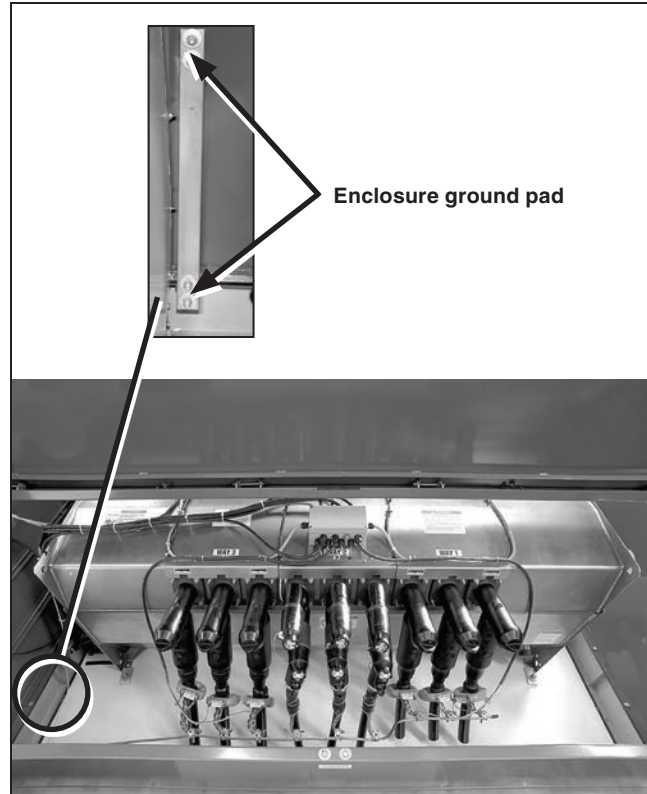
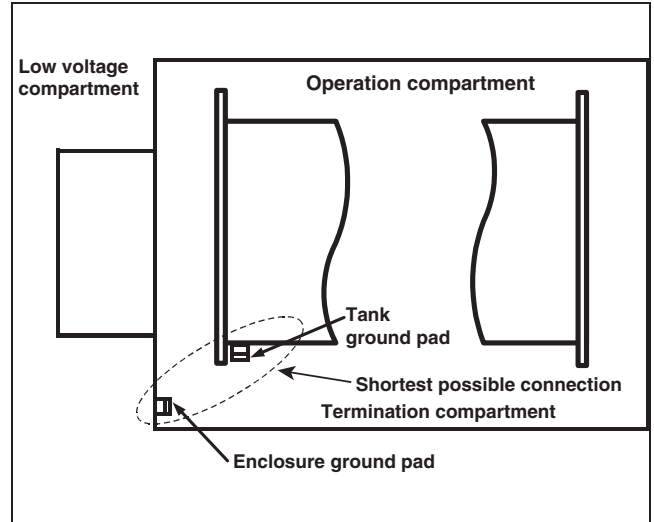

Figure 11. The pad-mounted enclosure ground pad orientation.
Figure 13. The tank and enclosure ground pads.
- STEP 2.** Connect the ground pad of the tank and the ground pad inside the enclosure to the system ground facility in accordance with the user's standard grounding practice. Connect with the shortest possible connection. See Figures 11 and 12, and Figure 13 on page 15.